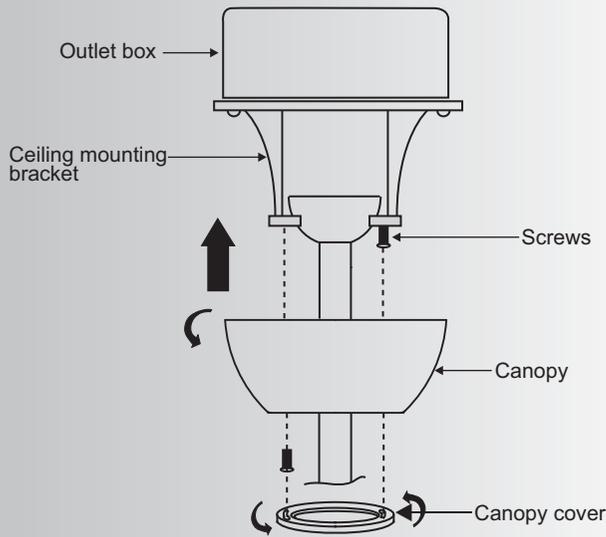

Fig. 14
**Step 2.** Slide the canopy up to the mounting bracket and place one of the key hole slots over the mounting screw on the mounting bracket. Rotate the canopy until the screw head locks in place at the narrow section of the key hole. See figure 14.
**NOTE:** Adjust the canopy screws as necessary until the canopy and canopy cover are snug. (Fig. 14)